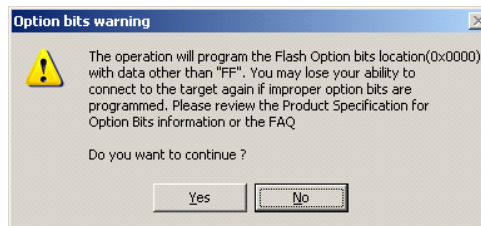

Figure 8. Option Bits Warning Dialog Box
8. When the Option Bits Warning dialog box shown in Figure 8 displays, click **Yes** to continue.